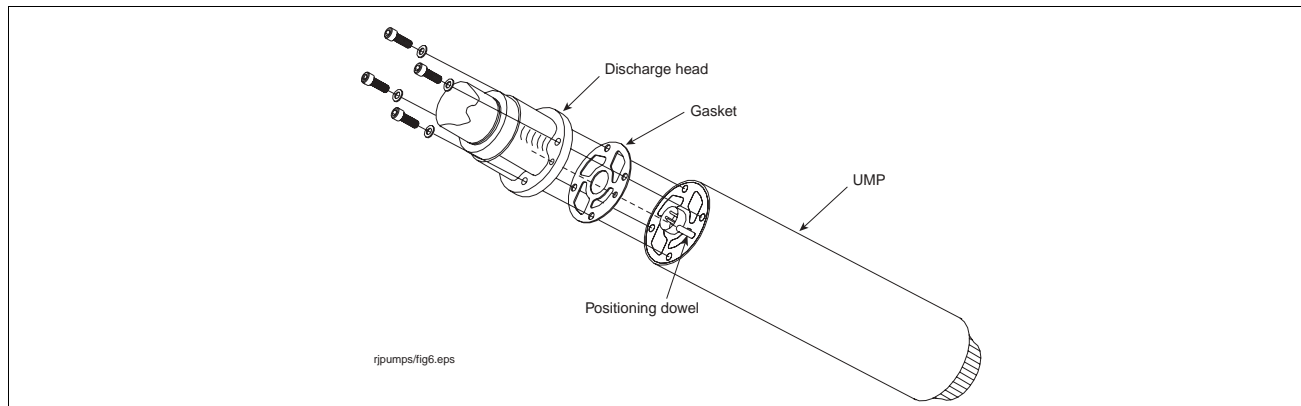

Figure 30. UMP bolts and gasket
4. Remove the old UMP by removing the four bolts holding the discharge head as shown in Figure 30. Discard the old gasket.
4. Remove the UMP by removing the four bolts holding the discharge head as shown in Figure 30 on page 32. Discard the old gasket.